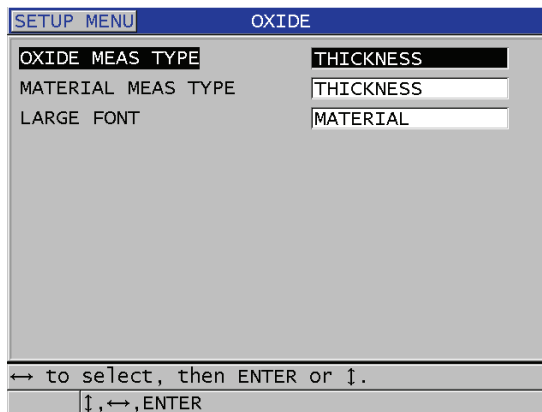

Figure 7-2 The OXIDE screen
9. In the **OXIDE** screen (see Figure 7-2 on page 91):